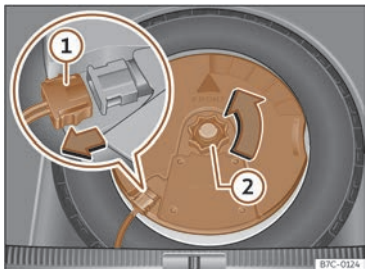

Fig. 223 In the boot: remove the subwoofer.
- Disconnect the subwoofer's speaker cable >>> **Fig. 223** ①.
- Turn the securing wheel anti-clockwise >>> **Fig. 223** ②.